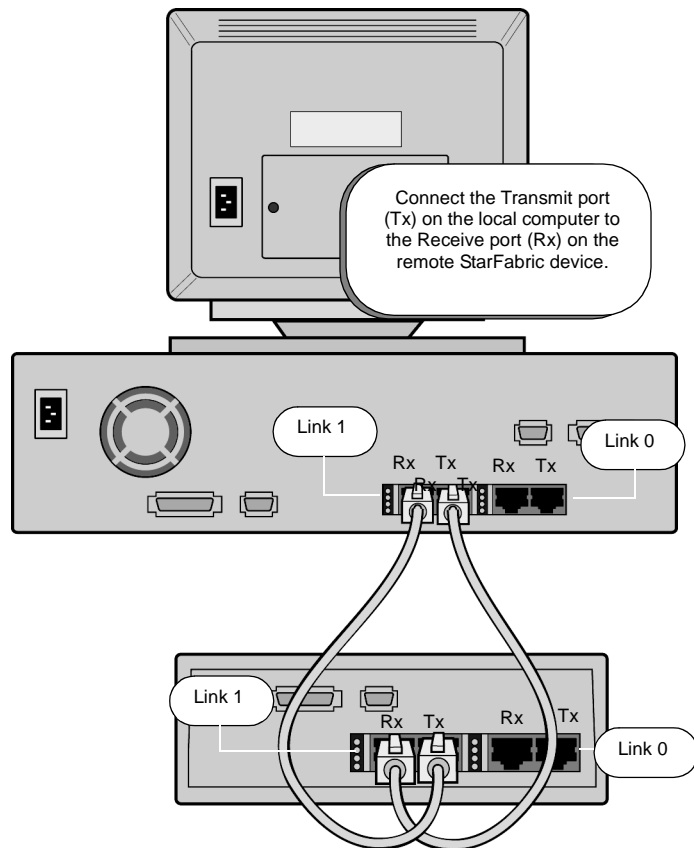

FIGURE 24. Connecting CAT5 Cables for 2.5 Gbps Links
1. Connect the Transmit (Tx) port on the local device to the Receive (Rx) port on the remote device, as shown in Figure 24.